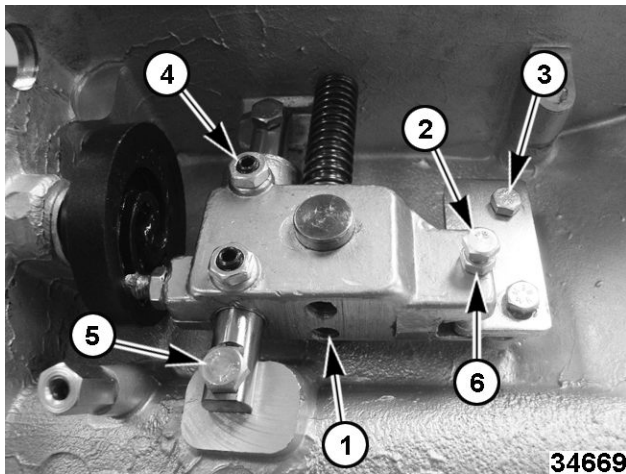

Fig. 40
6. Loosen the index adjustment jam nut (6, Fig. 40).
7. Adjust screw (2, Fig. 40).
- A. Adjust the set screw (4, Fig. 40) tight enough that the index mechanism does not float inside the index cam, but loose enough that it does not bind in the slicer housing.